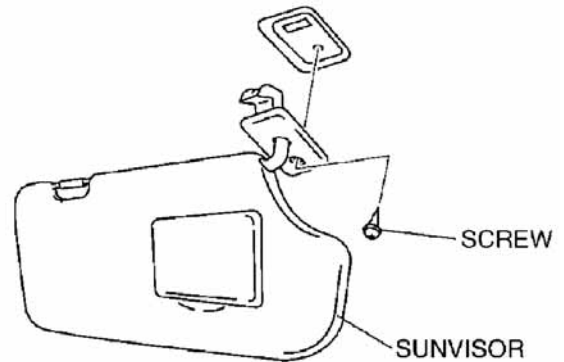

FIGURE 29
- 1.) REMOVE THE SCREW. (SEE FIGURE 29)
- 2.) UNHOOK AND REMOVE THE SUNVISOR. (SEE FIGURE 29)